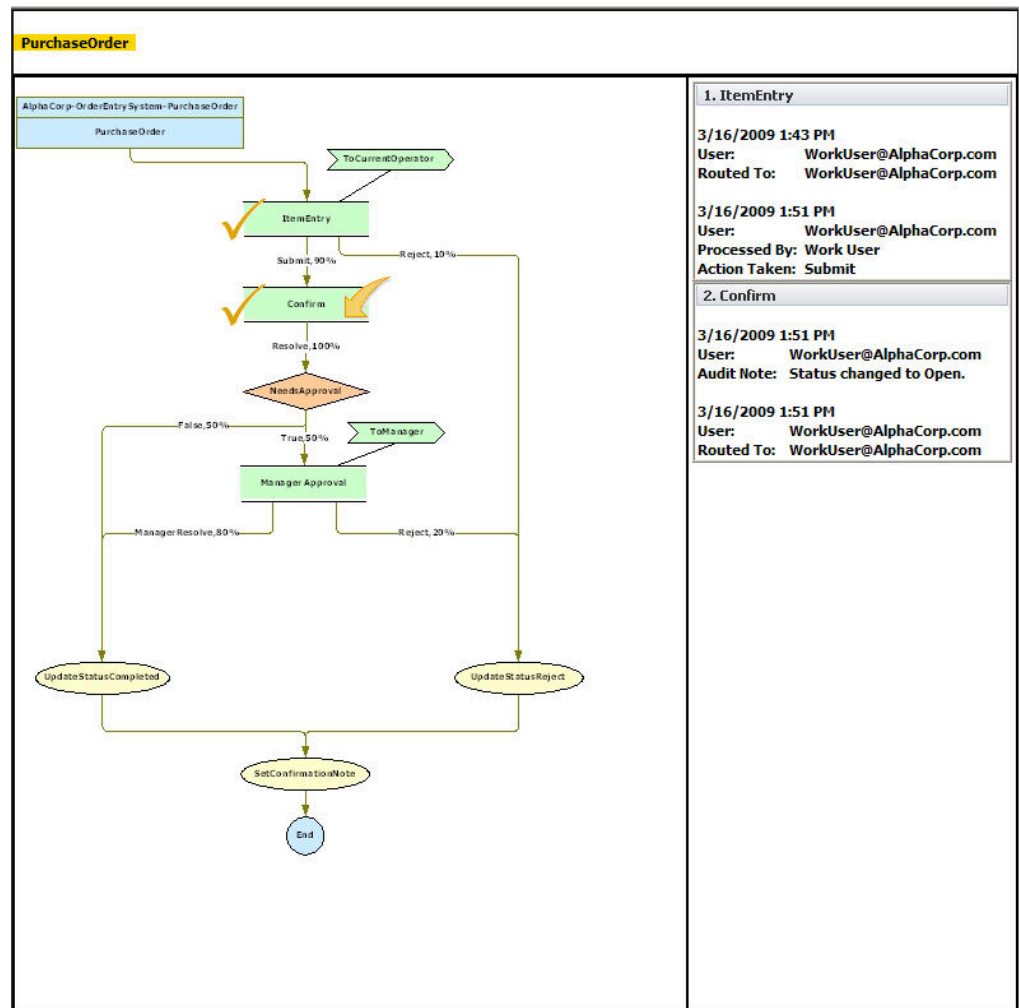

Figure 2-9. Location of Request in Process Flow
- Click the Where-Am-I icon  to see the location of this purchase order in the process flow, and the path that this work object has followed so far (Figure 2-9). The check marks indicate steps that are complete; the arrow marks the current step. The shapes in this diagram are types of building blocks in the Process Commander representation of the business process. Common shapes are explained in Chapter 3.